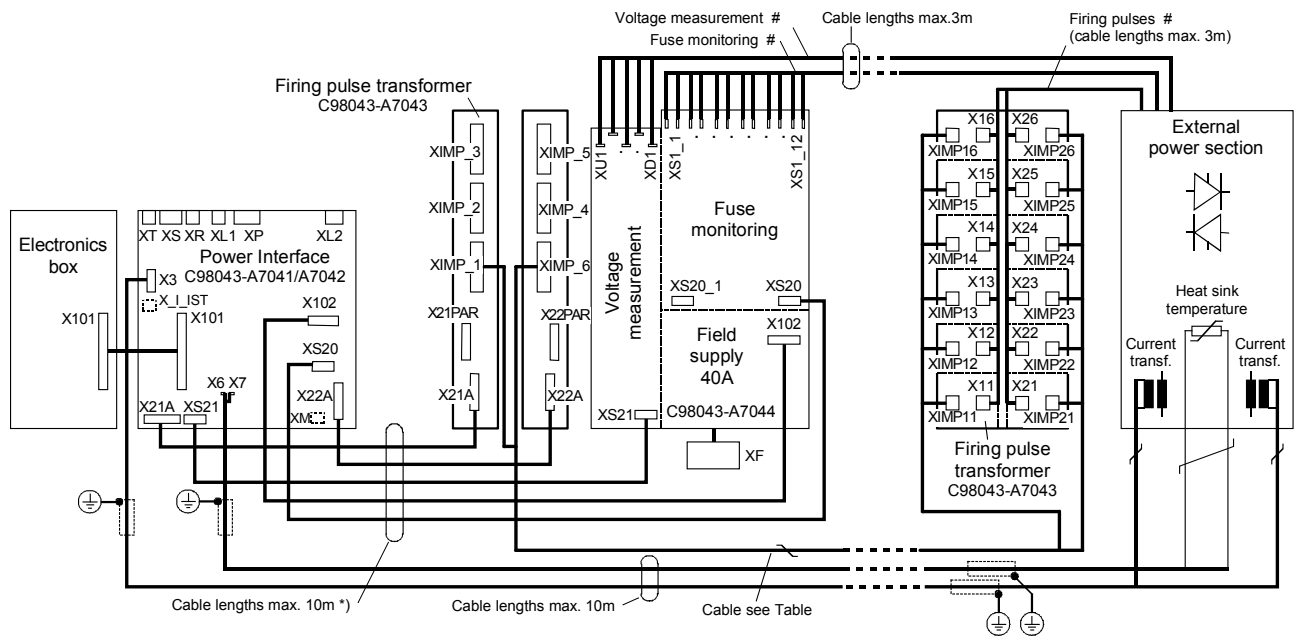

Fig. 6.4.2
**2. Rear and front trough mounted one on top of the other or separately, module C98043-A7043 and separated (firing pulse transformer mounted with power section), module C98043-A7044 not separated (Fig. 6.4.2)**